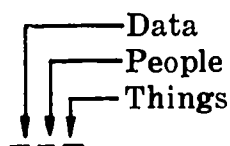

Fig. 50-1. Meaning of Place or Position
10. The *code number* for an occupation has *three digits* to show the importance of working with data, with people, and with things. Copy Fig. 50-1 on the chalkboard.